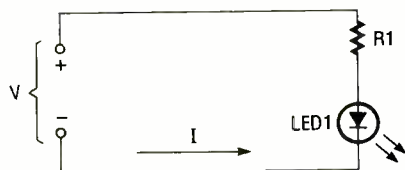

Fig. 12. A typical LED circuit contains a current-limiting resistor to prevent blowing out the unit.
**Simple LED Circuits.** Figure 12 shows the most basic form of LED circuit. The diode (LED1) is connected across a voltage source (V) via a series resistor (R1) such that the diode is "forward biased." That is, electron current (I) will flow from the cathode (N material) to the anode (P material). The series resistor (R1) is used to limit the current through the diode to a safe level. The value of the resistor is: